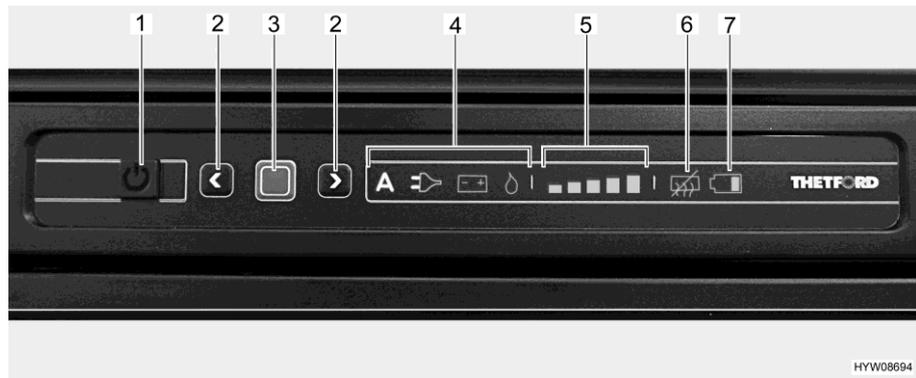

Fig. 268 LED operating panel (Thetford refrigerator)
- Press and hold the On/Off button (Fig. 268,1) for 1 second. The button lights up green. To save energy, after approximately 10 seconds the display is dimmed.
- Press confirmation button (Fig. 268,3). The operating mode previously selected is displayed.
- Press and hold the confirmation button (Fig. 268,3) for about 2 seconds. The operating mode symbols flash.
- Manual power selection: use the arrow keys (Fig. 268,2) to select the desired energy source.
- Automatic power selection (only version with automatic power selection): use the arrow keys (Fig. 268,2) to select the operating mode "A".
- Confirm your selection with the confirmation button (Fig. 268,3).
- Press confirmation button (Fig. 268,3) again. The cooling level indicator (Fig. 268,5) flashes.
- To change the setting, press the arrow keys (Fig. 268,2) until the desired setting is displayed.
- Press and hold the On/Off button (Fig. 268,1) for about 2 seconds. All lights go out. Refrigerator is switched off.
After switching it on, the refrigerator automatically selects the previously selected thermostat position. This position can be adjusted manually by using the arrow keys (Fig. 268,2). It takes a few hours till the refrigerator reaches its normal operating temperature. When changing over to another operating mode, the thermostat setting is kept.